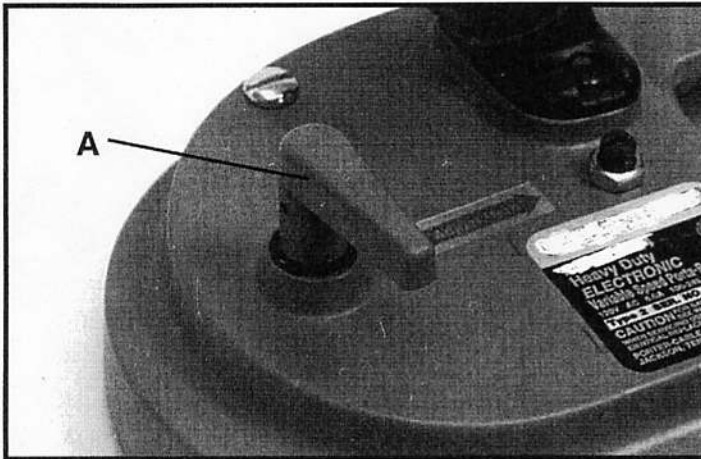

Fig. 2
TO REMOVE BLADE – Turn handle (A), Fig. 2, clockwise to release tension on the saw blade. Remove the blade, first from the pulleys and then from the blade guide.
Turn handle (A), Fig. 2, counterclockwise as far as it will go. This reinstates tension on saw blade.